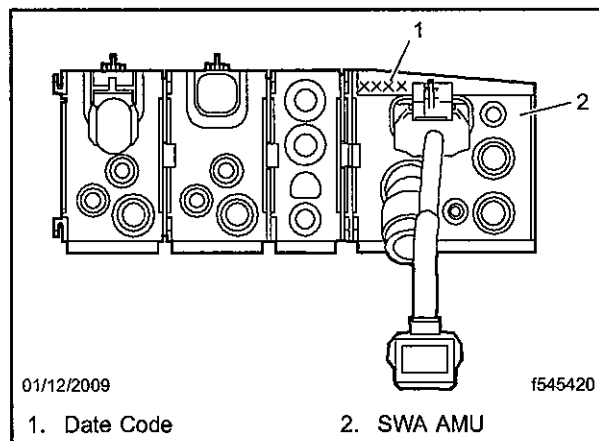

Fig. 3, AMU Front View
3. Inspect the SWA module of the AMU for the date code. The date code can be found on the left side of the SWA module cap. See Fig. 3. SWA modules with a date code (manufacture date) prior to May 18, 2008 need to be replaced. The date code for May 18, 2008 will appear as 18E8, with the first two digits signifying the date, the letter signifying the month and the last digit signifying the year. See Table 3 for a list of month codes.
10. Install the new SWA module from the kit in the original position of the module that was removed. See Fig. 3.